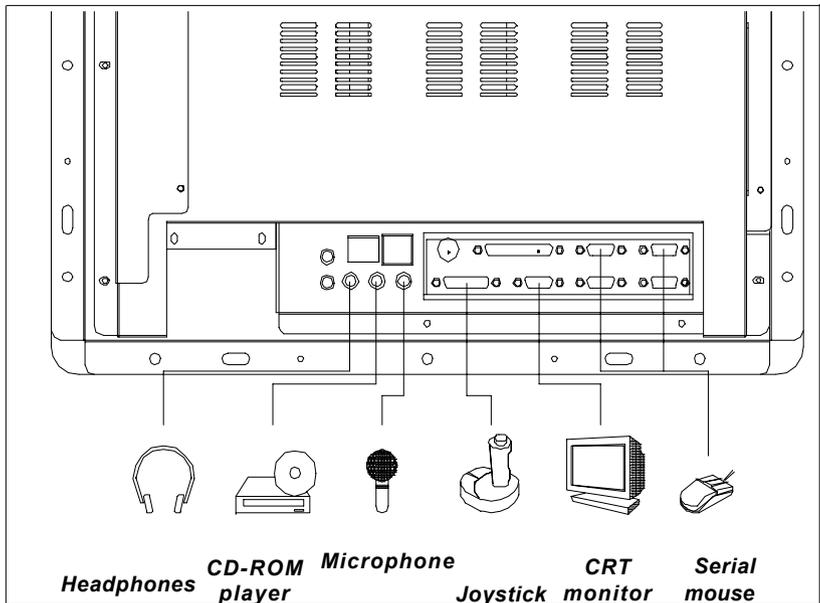

Figure 3-4: Using the I/O interface (lower level ports and COM ports)
2. Attach the interface cable of the serial device to the panel computer's serial port. (See Fig. 3-4.) If necessary, attach the other end of the interface cable to your serial device. Fasten any retaining screws.
2. Connect the external monitor to the system. (See Fig. 3-4.)
2. Connect the external joystick or game device to the system. (See Fig. 3-4.)
The audio interface includes three jacks: microphone in, line out and line in. (See Fig. 3-4.) Their functions are:
1. Connect the audio device to the system. (See Fig. 3-4.)